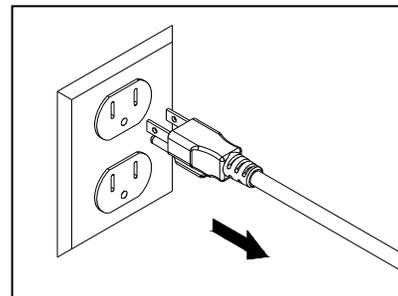

Fig. 12
1. Unplug the pump, and remove it from the container. Fig. 12